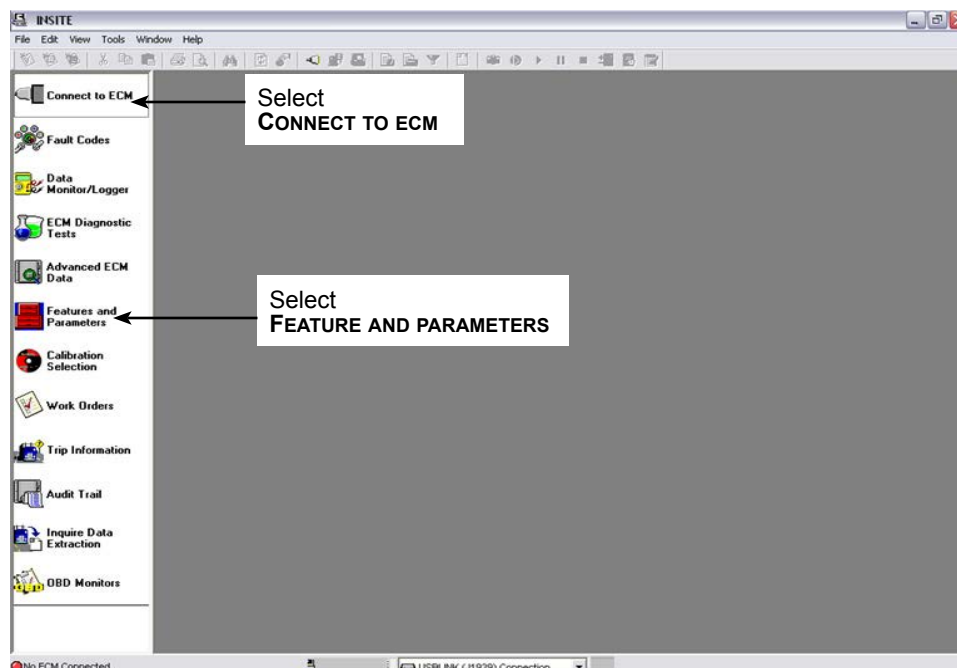

Figure 5 - Cummins Insite Homepage
- 3.4. Select **CONNECT TO ECM**. See Figure 5.
- 3.5. Select **FEATURES AND PARAMETERS**. See Figure 5.